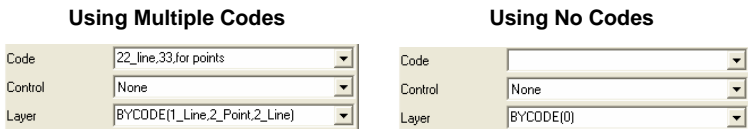

Figure 5-78. Layer Determination when Applying Codes
- If the point has multiple codes, setting Layer to "BYCODE" forces it to belong to multiple layers (Figure 5-78).
- If the point has no code, setting Layer to "BYCODE" forces the point to belong to layer 0 (zero) (Figure 5-78).